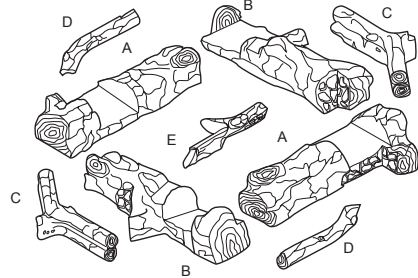

Figure 44 - Log Set (9 Pieces)
4. Figure 44 shows the log set. Logs "A" have a knot at the end of the log. Logs "B" have a knot at the middle of the log. Twigs "C" have the shape of a "Y". Twigs "D" have the shape of bent twigs. Twig "E" is a straight twig which is placed across top of logs "B".